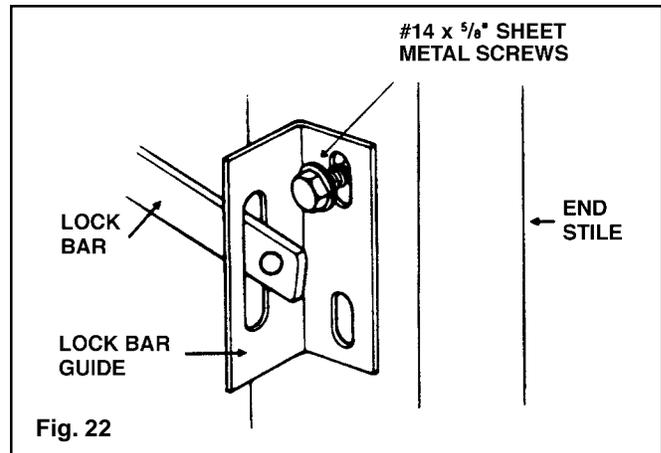

Fig. 22
5. Slide an equal number of lock bar guides on each lock bar and line up each bar with the slot in the vertical track after the vertical track is installed. Attach one lock bar guide to each end stile using #14 x 5/8" sheet metal screws. (FIG. 22)
6. If your door is over 10 feet wide, space on the other two lock bar guides equally over the other center stiles and attach each lock bar guide with two #14 x 5/8" sheet metal screws. (FIG. 22)